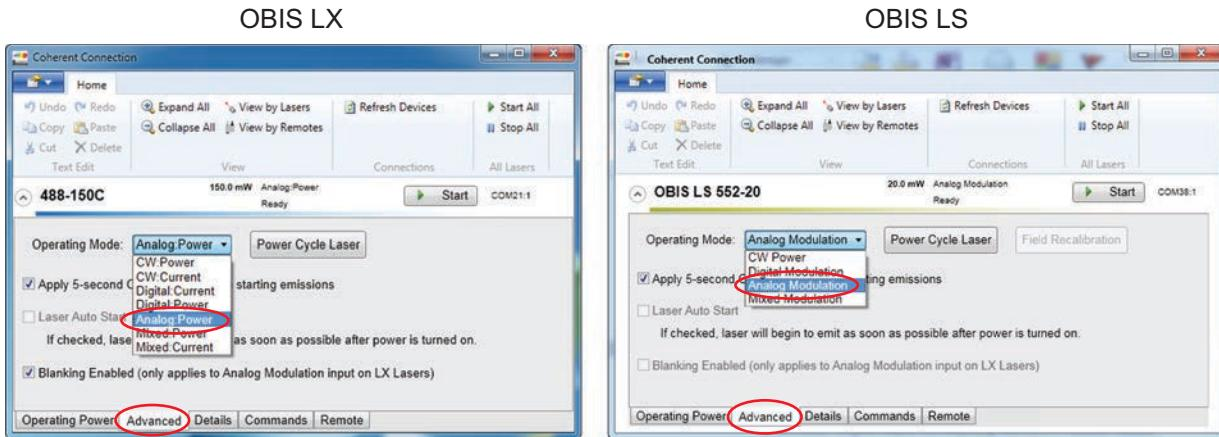

Figure 4-5. Power Control through Analog Modulation
2. On the Advanced tab in the *Operating Mode* drop-down menu, shown in Figure 4-5, select: